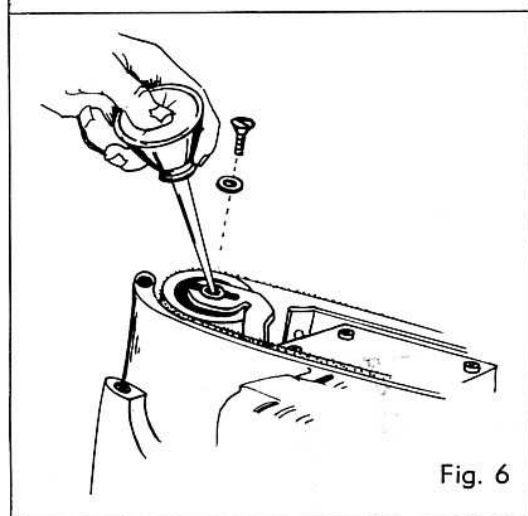

Fig. 6
LUBRICATION — (See Fig. 6) Before beginning operation and after four (4) hours of continuous use or after eight (8) hours of intermittent use, this Sander should be lubricated with good quality machine oil. Remove the flat head screw and washer marked (Oil) from the front pulley shaft and put a few drops of oil in the screw hole.